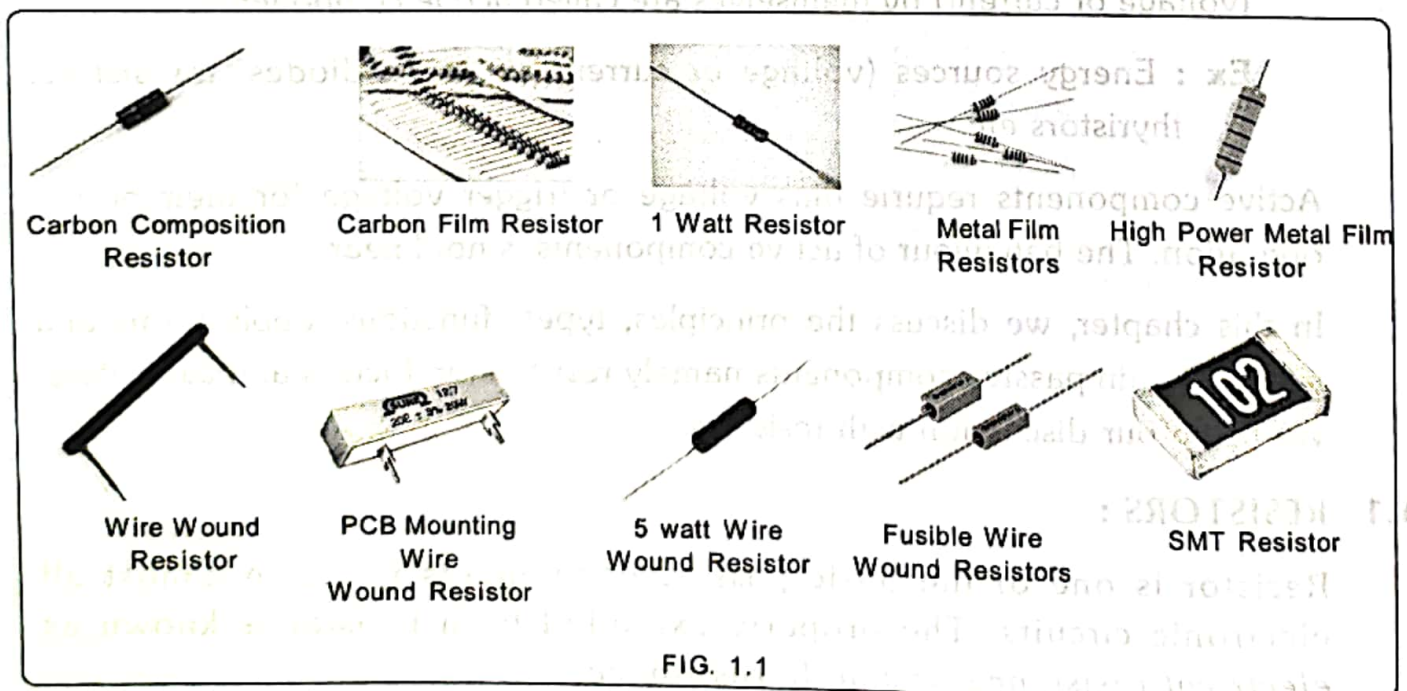

FIG. 1.1
The reciprocal of resistance (R) is conductance G ($G = \frac{1}{R}$) and its unit is mho (\mathcal{O}). A sample of different kinds of resistors are shown in Fig. 1.1.